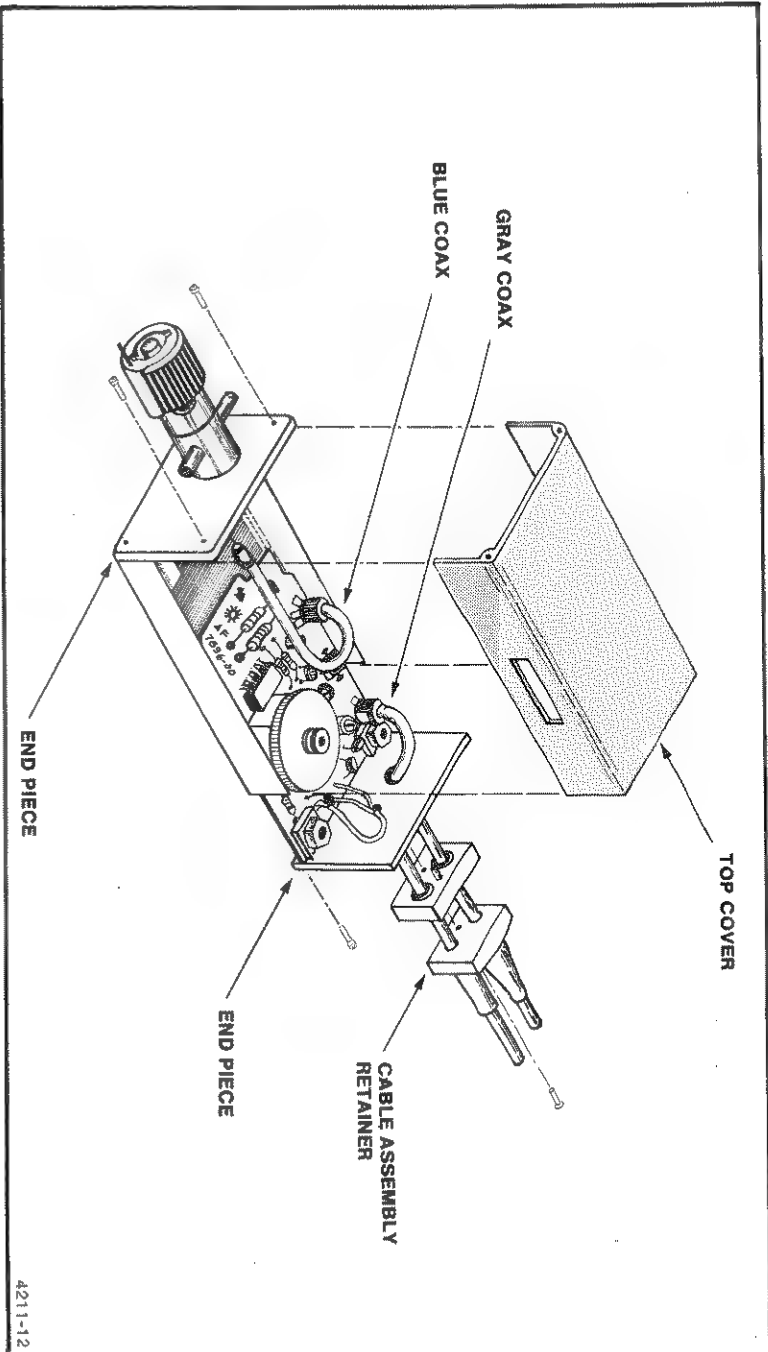

Figure 6-3. Disassembly of Control Box.
1. Remove the four screws holding the top half of the Control Box cover. (Refer to Figure 6-3.) Remove the top half cover.
3. Remove the screw holding the plastic cable-assembly retainer to the Control Box end-piece. (See Figure 6-3.)